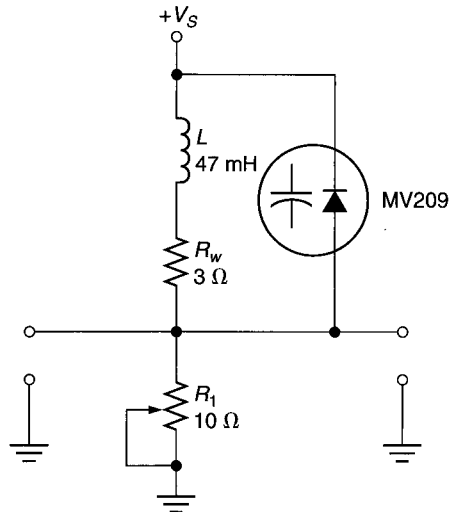

FIGURE 5.28 (Copyright of Semiconductor Component Industries, LLC. Used by permission.)
7. The varactor in Figure 5.28 has the characteristic curves shown. What value of  $V_R$  is required to set the resonant frequency of the tank circuit to 200 kHz?